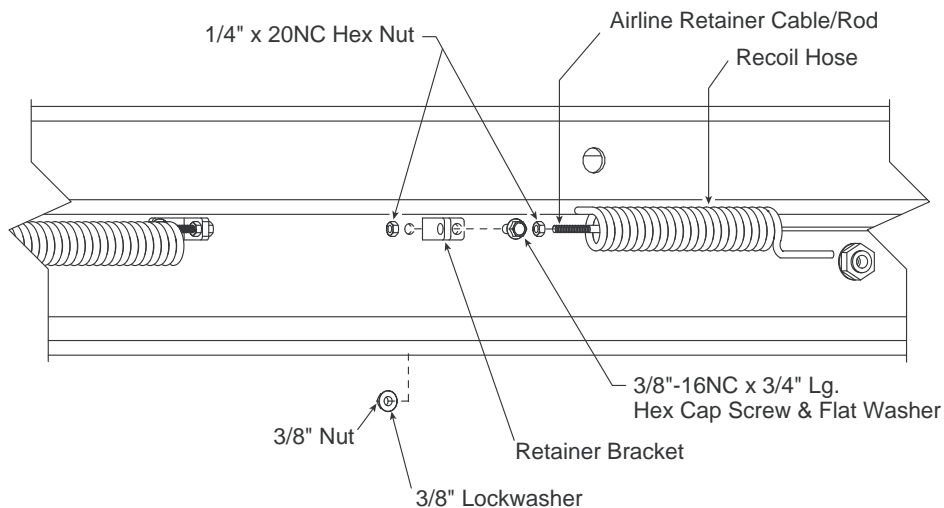

Fig. 31
- A. Attach retainer brackets for the rear recoil hose with 3/8"-16NC x 3/4" Lg. hex cap screw, flat washer, lock washer and nut, Fig. 31.
- B. Insert retainer cable through coils of recoil hose, Fig. 35. Run a 1/4"-20NC hex nut down onto each end of retainer cable. Insert each end of cable into retainer brackets. Secure each cable end with another 1/4"-20NC hex nut. Tighten jam nuts, Fig. 31.
- A. Insert retainer cable through coils of recoil hose, Fig. 31. Connect one end of recoil hose to coupling welded on rolling jack, Fig. 34 and 35.